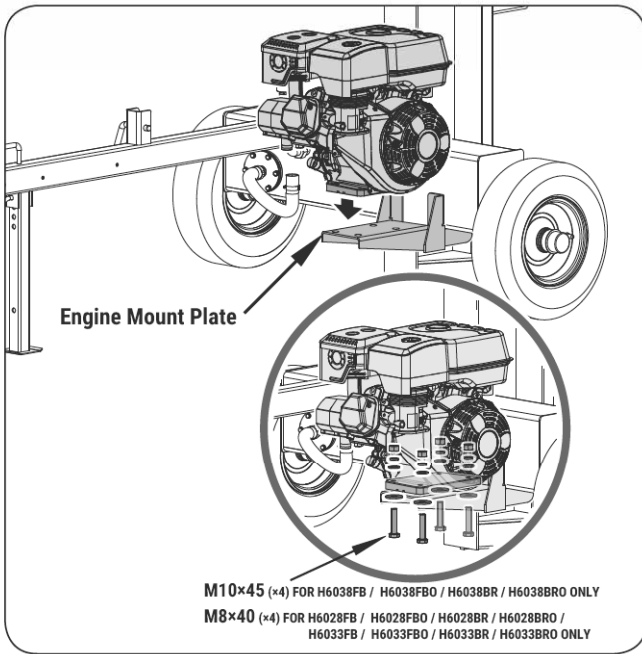

Figure 9a
1. Attach the engine to the engine mount plate on the reservoir by using bolts, flat washers, spring washers and nuts. (See **Figure 9a.**)